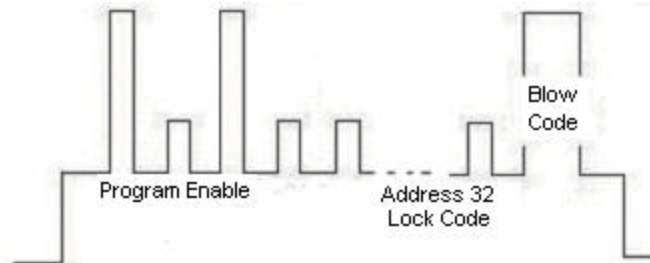

Figure 4. Lock-bit programming
**Lock-Bit Programming.** After the desired code is programmed, the lock bit, or code 32, can be programmed (figure 4) to prevent further programming of the device.